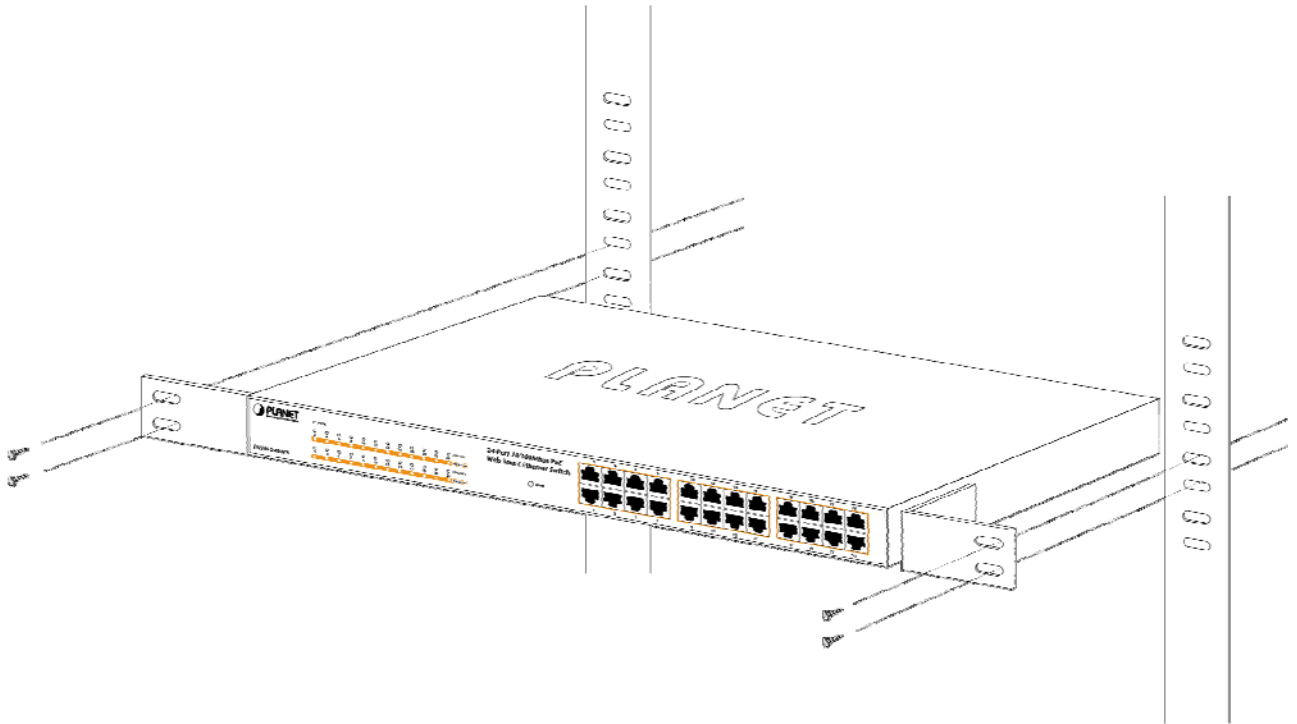

Figure 2-4 Mounting the POE Web Smart Ethernet Switch in a Rack
Step 5: After the brackets are attached to the POE Web Smart Ethernet Switch, use suitable screws to securely attach the brackets to the rack, as shown in Figure 2-4.